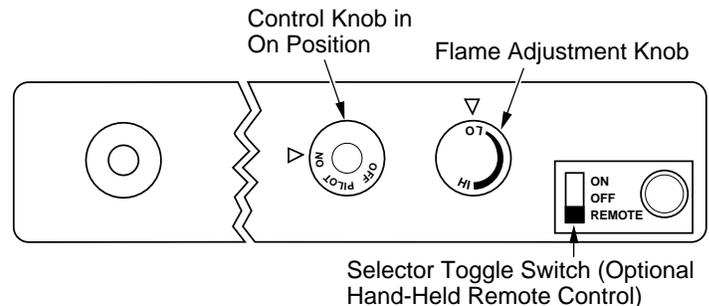

Figure 31 - Setting the Selector switch, Control Knob, and Flame Adjustment Knob for Remote Operation
1. After lighting, let pilot flame burn for about one minute. Turn control knob to ON position. Adjust flame adjustment knob anywhere between HI and LO. Slide the selector switch to the REMOTE position (see Figure 31). **Note:** The burner may light if hand-held remote was on when selector switch was last turned off. You can now turn the burner on and off with the hand-held remote control unit.